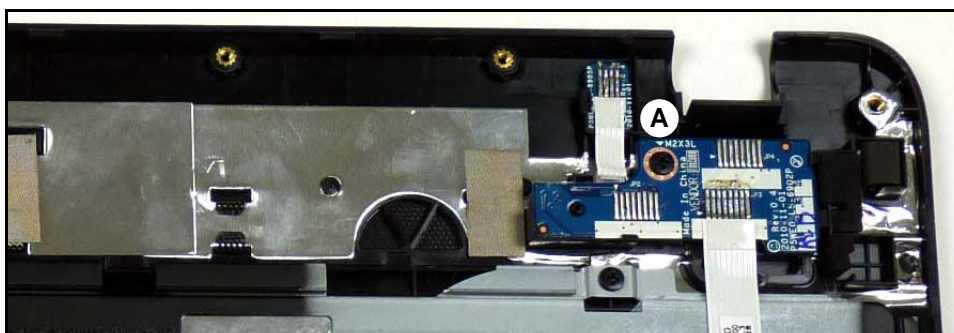

Figure 3-38. Power Board Overview
2. Remove screw (A) from upper cover. (Figure 3-38)
2. Install and secure screw (A) to upper cover. (Figure 3-38)